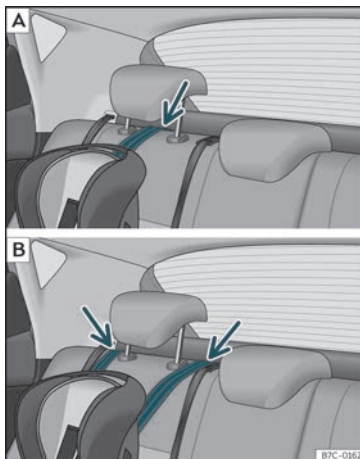

Fig. 26 Rear seats: adjustment and assembly according to the Top Tether belt.
- Place the belt under the headrest of the back seat >>> **Fig. 26** (depending on the instructions of the chair itself, lift or remove the headrest if necessary).